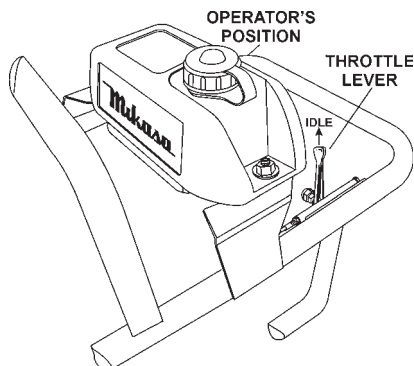
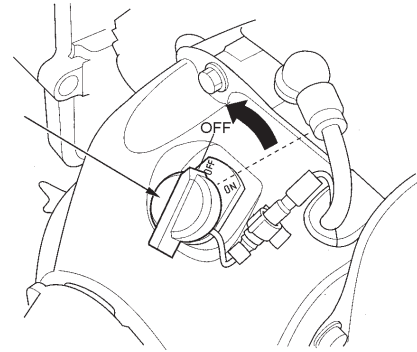

Figure 10. Throttle Lever (Idle)
Figure 11. ON/OFF Switch (Off Position)
1. Move throttle lever quickly from the **FULL OPEN** to **IDLE** position (Figure 10) and run the engine for three minutes at low speed. After the engine **cools**, turn the engine start/stop switch to the **"STOP"** position (Figure 11).